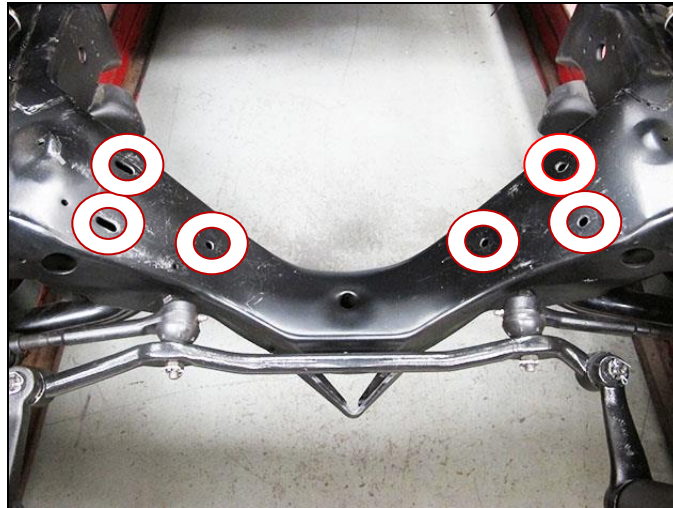

Figure 1 – Attach engine mounting brackets using the stock holes in vehicle frame that are circled above.
2. **Loosely** attach the Hooker Blackheart engine mounting brackets to the K-member, as depicted in **Figures 1, 2, and 3**, using the supplied 3/8" bolts/nuts. Install the carriage bolts into the rectangular slot position on each bracket. The driver's side bracket is identifiable by the triangular shaped notch located on its outer profile. The passenger's side bracket has a semi-circle shaped notch located along its outer profile.